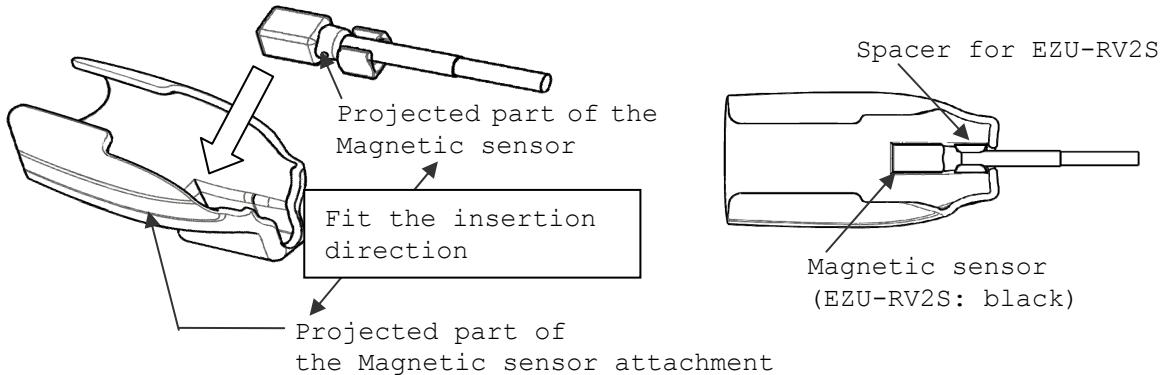

Fig.4 How to attach the Magnetic sensor
2) Insert the magnetic sensor (EZU-RV2S) into the magnetic sensor attachment with the correct direction as shown in Fig.4.